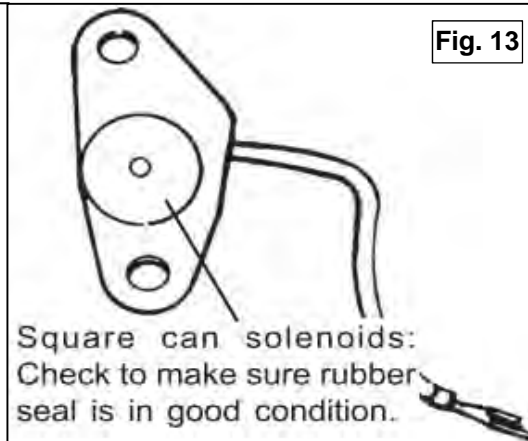

Fig. 13
Square can solenoid: Make sure the rubber seal is in good condition and has no nicks or cuts (See Fig. 13). If the seal is damaged, you will have to replace the solenoid. If the seal leaks the transmission will be in passing gear all the time. Install the solenoid into position, DO NOT use the metal gasket supplied in the kit. Install the two (2) 1/4-20 bolts FINGER TIGHT. Remove the pan bolt you used to hold the plate and gasket in place.